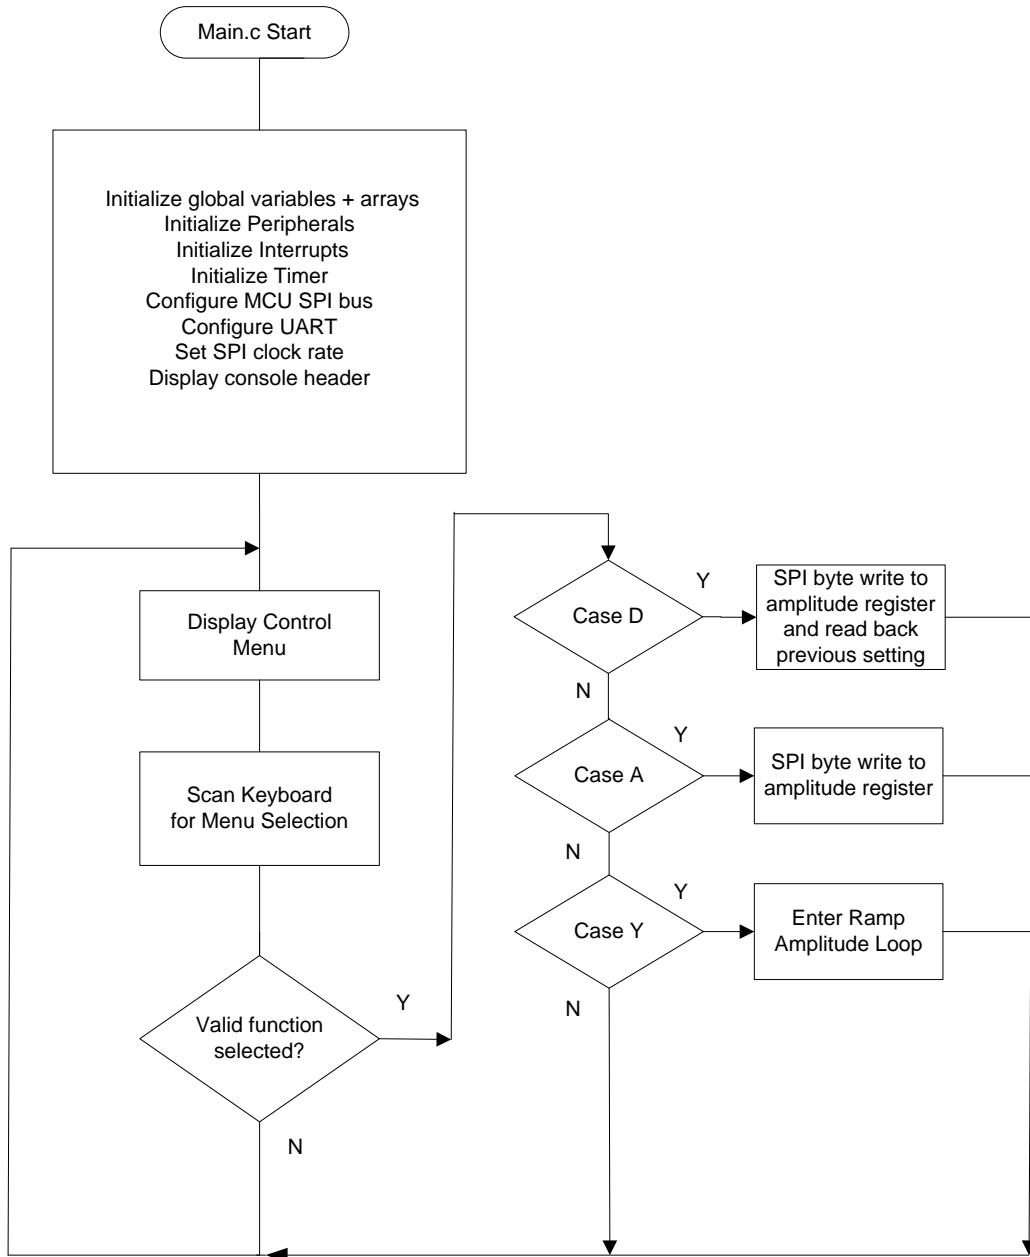

**Fig 3: Yellow is BUSA output, green is RXA output, Red is the ACTIVE trigger signal**
10. To test HI-1590 BusA and BusB receivers, RXENA and/or RXENB switches should be in the high position. Any 1553B compliant data is now output on the relevant RXA/nRXA and RXB/nRXB pins of J3. An example is shown in Fig 3 below: